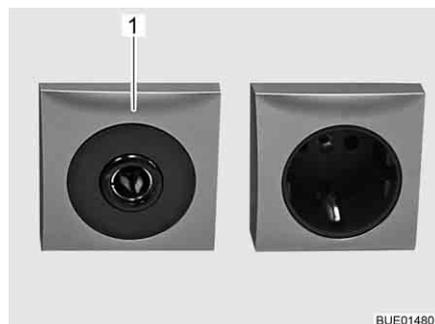

Fig. 168 Socket 12 V/10 A
- ▷ Only connect devices with a maximum of 10 A to the sockets (Fig. 168,1) of the 12 V power supply.